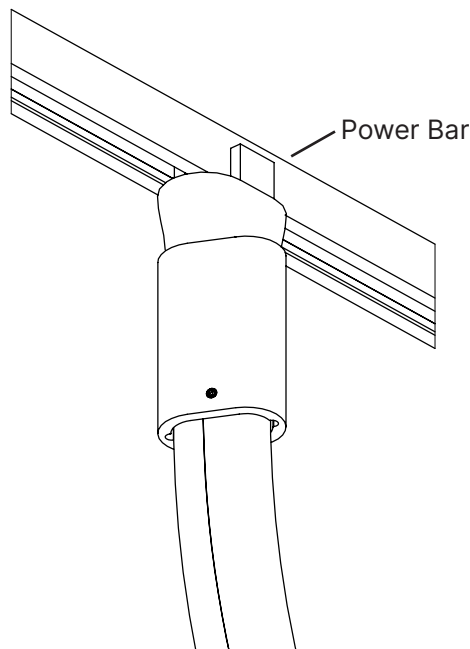

Fig. 2
2. Install both ends of **Light Curve Luminaire** to desired **Power Bar(s)**, press up on the connector of the Light Curve Luminaire, while pressing down firmly on the top of the Power Bars until the luminaire clicks into place. (Fig. 2)
2. Screw the **Trim Ring** into the **Cylinder Light Engine**. (Fig. 2)